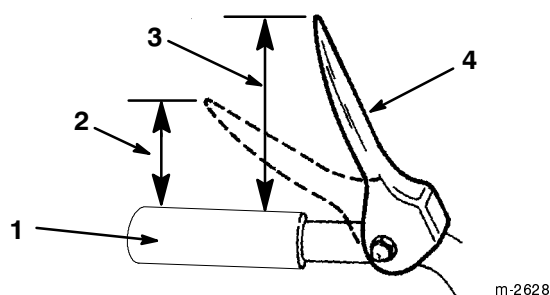

Figure 22
2. Check the distance between the top of the handgrip and the bottom of the auger/impeller drive control lever. The distance should be approximately four inches (10.2 cm) (Fig. 22).